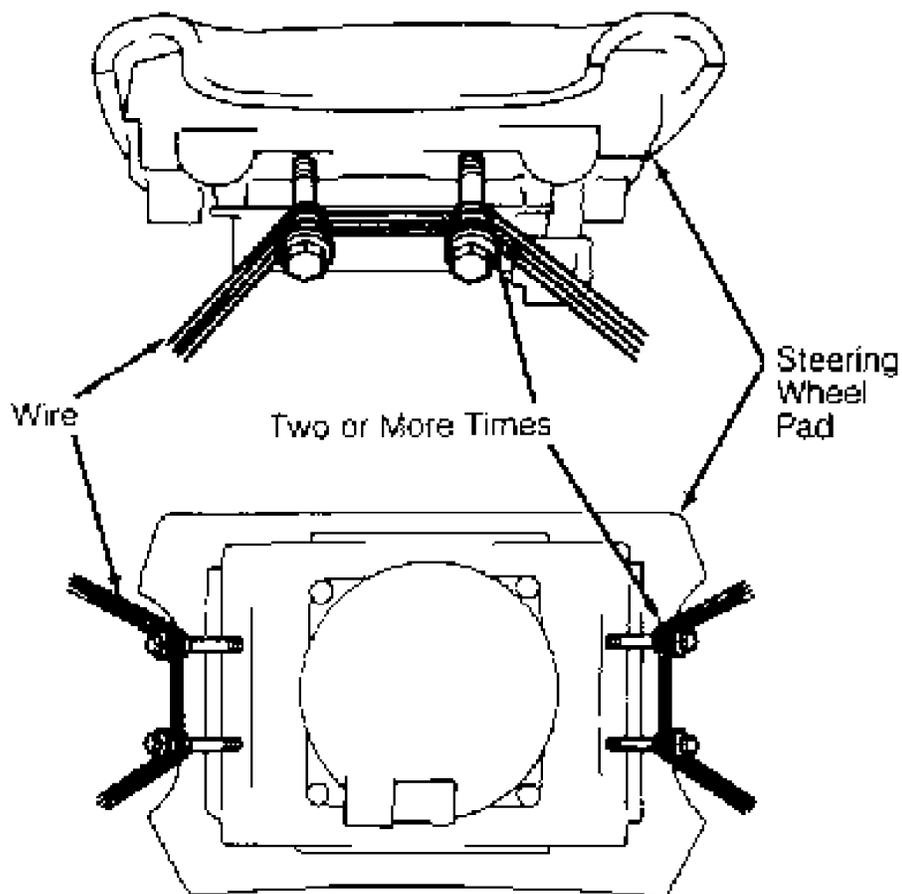

Fig. 2: Installing Wire On Steering Wheel Pad
4) Wrap strong wire at least twice around bolts on left and right sides of steering wheel pad. See Fig. 2. Ensure no slack is present in wire. If slack is present, or wire is not strong enough, steering wheel pad may become loose due to shock when air bag is deployed.